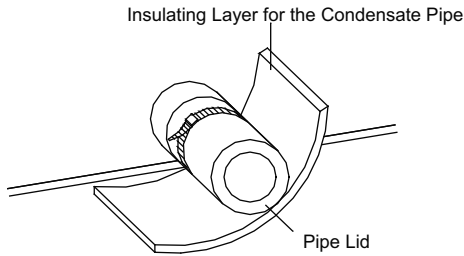

Fig. 36 - Thermal Insulation of the Condensate Pipe
1. The condensate pipe should keep a inclination angle of $5 \sim 10^\circ$, to facilitate the drainage of the condensate water. And the joints of the condensate pipe should be insulated by the insulation material to prevent condensing (see Fig. 36).